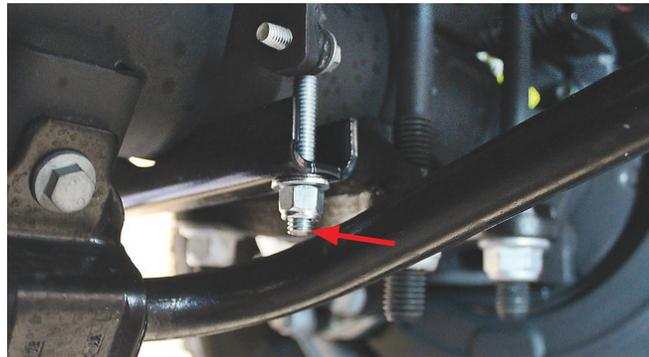

Fig. 38
10. On vehicles that have a sway bar, it will be necessary to cut the front carriage bolt just below the nut so it does not contact the sway bar (Fig. 38).